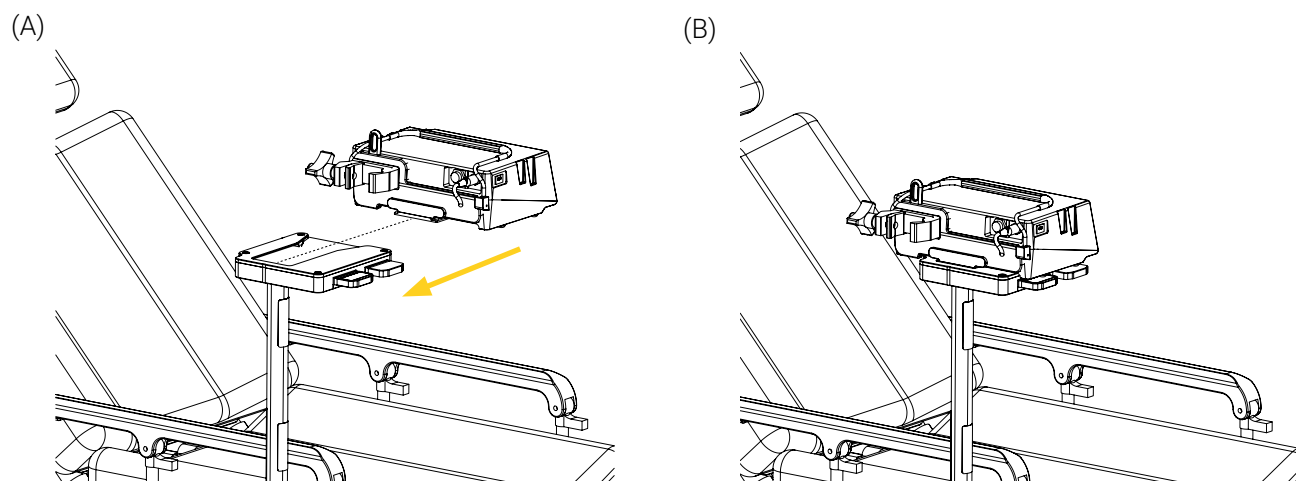

Figure 10: Installing the infusion pump in the NVM Support Bracket
1. Insert the infusion pump in the NVM Support Bracket horizontally, then slide it in the support bracket until it locks (Figure 10), while paying close attention not to wedge the power cords or tubing.